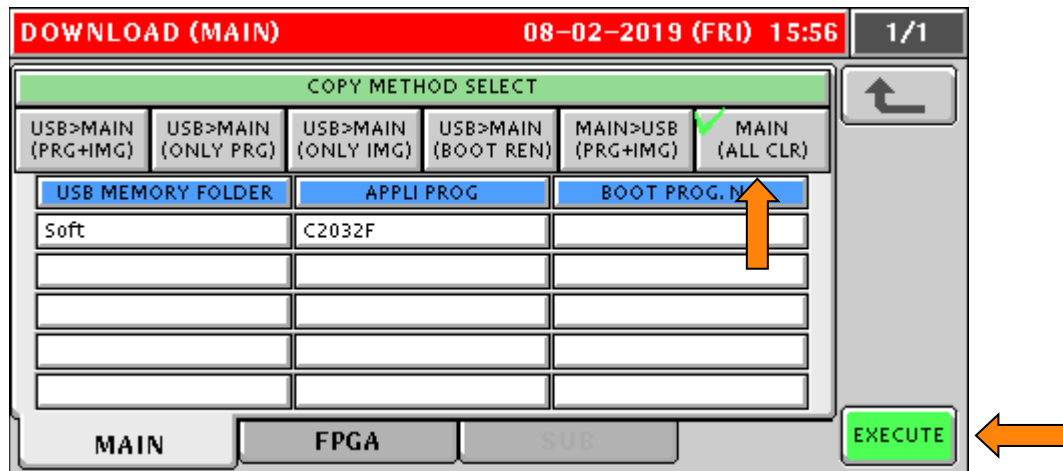

Figure 42. Select **MAIN (ALL CLEAR)** to Erase Old Firmware Files
**Note:** Confirm the firmware version is compatible with the PK-260B CPU board. If the firmware is not compatible it will not be displayed on the Download (Main) screen. See Figure 42.
- j. At the DOWNLOAD (MAIN) screen select **MAIN (ALL CLR)** and press **EXECUTE**. See Figure 42.